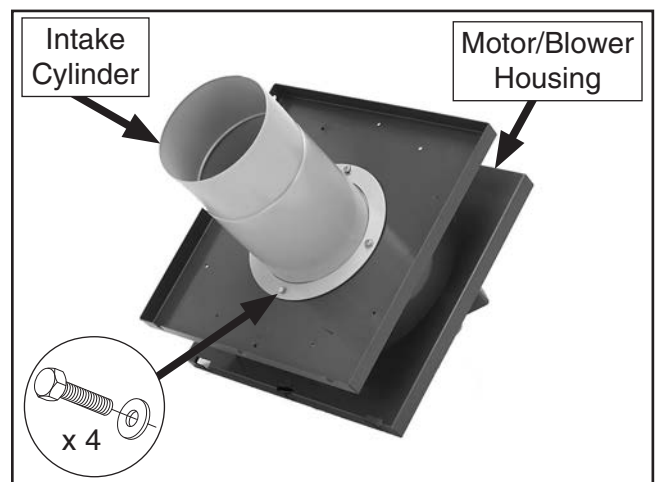

Figure 10. Intake cylinder attached to the bottom of motor housing.
8. Attach intake cylinder to bottom of housing, as shown in **Figure 10**, with (4) $\frac{5}{16}$ "-18 x $\frac{3}{4}$ " hex bolts and $\frac{5}{16}$ " flat washers.